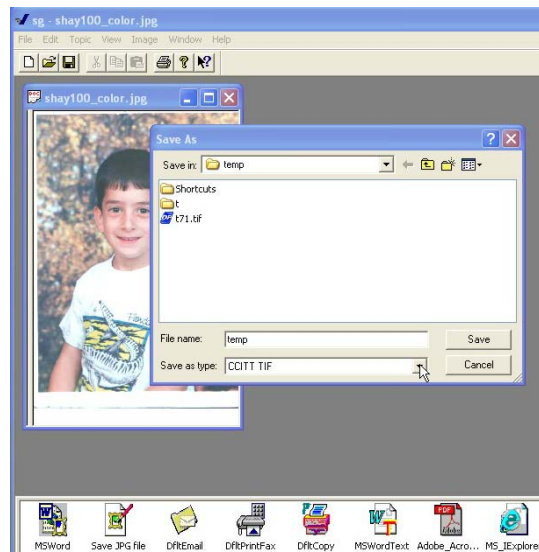

Fig. 3.6: Save As dialog
- Save As dialog box will pop-up (see fig 3.6) and let the user select the save location the save file name and file format.